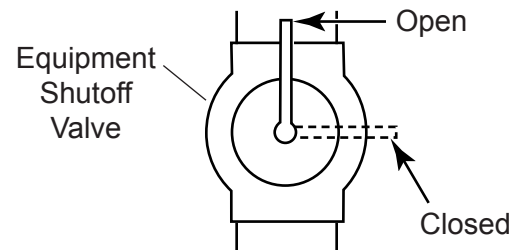

Figure 15 - Equipment Shutoff Valve
1. Close equipment shutoff valve (see Figure 15).
3. Check all joints from propane/LP supply tank to equipment shutoff valve (see Figure 15). Apply mixture of liquid soap and water to gas joints. Bubbles forming show a leak.
1. Open equipment shutoff valve (see Figure 15).